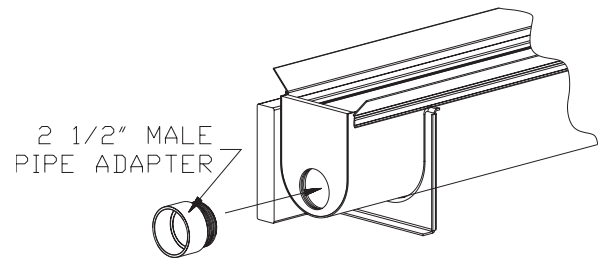

Figure 8
13. Install the 2 1/2" plastic male pipe adapter in the end cap as shown in Figure 8.